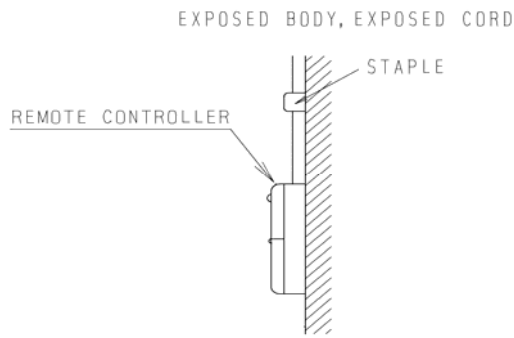
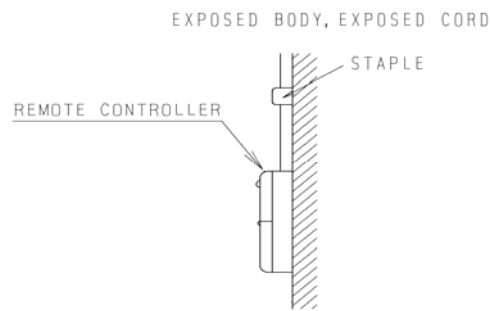

Fig.52 Surface mounting of Cable
Fig.53 Concealed mounting of Cable
3. If the control wire between the wire controller and the indoor unit is surface-mounted, use 1# metallic pipe and make matching recess in the wall (refer to Fig.52; If concealed installation is adopted, 1# metallic pipe can be used (Refer to Fig.53).